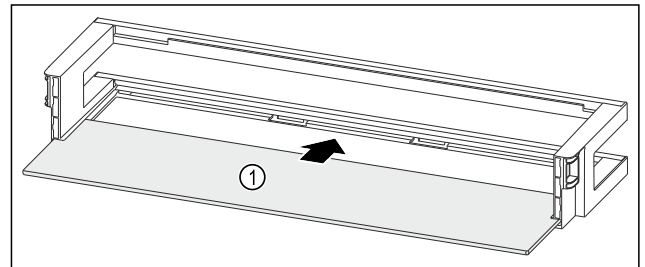

Fig. 135 Door racks with shelf
- ▶ Push the shelf Fig. 135 (1) into the side cutouts.